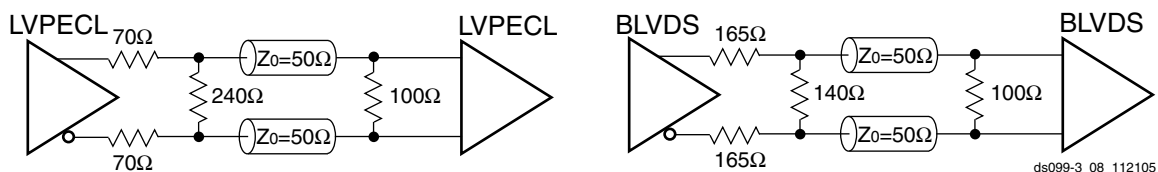

Figure 34: External Termination Required for LVPECL and BLVDS Output and Input
- Each LVPECL\_25 or BLVDS\_25 output-pair requires three external resistors for proper output operation as shown in Figure 34. Each LVPECL\_25 or BLVDS\_25 input-pair uses a 100Ω termination resistor at the receiver.